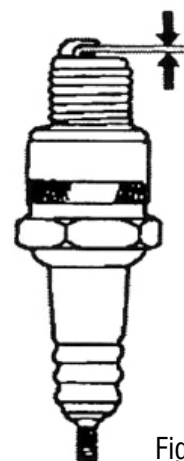

Fig. 6
4. Check the gap with a spark plug gauge as shown in Figure 6. If necessary, reset the gap (See Specifications).